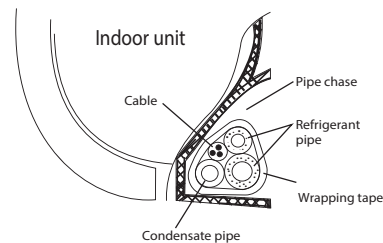

Fig. 10 — Condensate Pipe Ordering
- While routing the condensate behind the unit from one side to the other, make sure all the piping is wrapped and placed in the piping chase as shown in Fig. 10.
Be sure the power wiring and control wiring do not cross, as this might cause disturbance on the controls side. See Fig. 10 for wiring diagram.